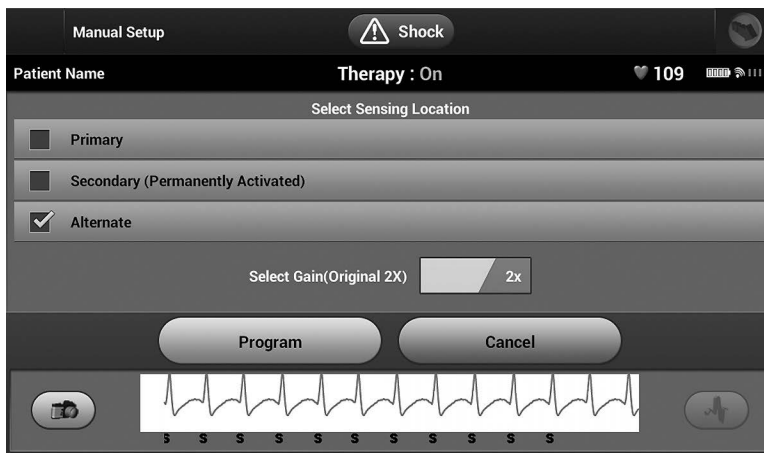

Figure 21: Manual Setup screen with sensing vector and gain options
2. Select and drag the Gain or Sweep Speed Scale bars as desired (Figure 21). The S-ECG scale will change according to the selected setting. The gain setting controls the visual gain. The Programmer defaults to Full Range for pulse generators with a gain setting of 1x and to 1/2 Range for pulse generators with a gain setting of 2x. The Sweep Speed slider controls the display speed of the scrolling Live S-ECG. The nominal sweep speed setting is 25 mm/sec.
4. There are three available sensing vectors that can be manually selected from the Manual Setup screen (Figure 21 on page 53):